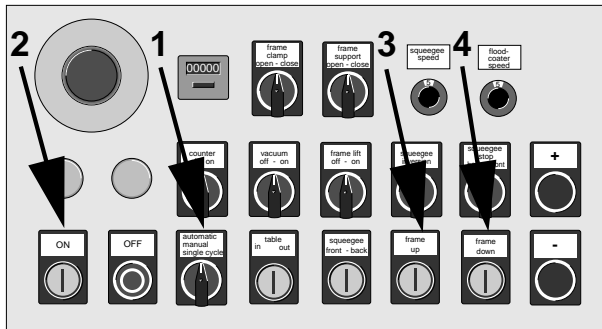

Figure 3-5. Control panel
- \* Set the operating mode control to "manual" (1, Figure 3-5).
- \* To lower the print head, hold **ON** depressed and simultaneously push **frame down** (4, Figure 3-5), until the print head has reached the bottom position.